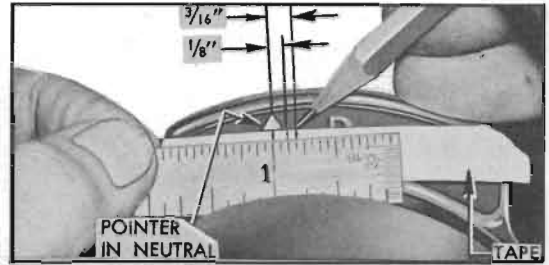

Figure 10-44—Marking Tape for Checking Switch Timing
2. Make two marks on masking tape at  $\frac{1}{8}$ " and  $\frac{3}{16}$ " from *center* of pointer. See figure 10-44.